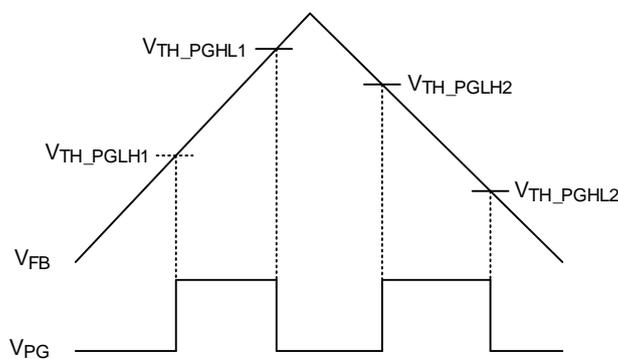

Figure 3. The Logic of PG
The RTQ2105-QA features an open-drain power-good output (PG) to monitor the output voltage status. The output delay of the comparator prevents false flag operation for short excursions in the output voltage, such as during line and load transients. Pull up PG with a resistor to  $V_{CC}$  or an external voltage below 5.5V. The power-good function is activated after the soft-start is finished and is controlled by a comparator connected to the feedback signal  $V_{FB}$ . If  $V_{FB}$  rises above a power-good high threshold ( $V_{TH\_PGLH1}$ ) (typically 90% of the reference voltage), the PG pin will be in high impedance and  $V_{PG}$  will be held high after a certain delay elapsed. When  $V_{FB}$  exceeds  $V_{TH\_PGHL1}$  (typically 120% of the reference voltage), the PG pin will be pulled low. Moreover, the IC turns off the high-side MOSFET switch and turns on the low-side MOSFET switch until the inductor current reaches  $I_{SK\_L}$  if the MODE pin is set high. If the  $V_{FB}$  is still higher than  $V_{TH\_PGHL1}$ , the high-side MOSFET switch remains prohibited and the low-side MOSFET switch will turn on again in the next cycle. If the MODE pin is set low, the IC turns off the low-side MOSFET switch once the inductor current reaches zero current unless  $V_{BOOT-SW}$  is too low. For  $V_{FB}$  higher than  $V_{TH\_PGHL1}$ ,  $V_{PG}$  can be pulled high again if  $V_{FB}$  drops back by a power-good high threshold ( $V_{TH\_PGLH2}$ ) (typically 117% of the reference voltage). When  $V_{FB}$  falls short of the power-good low threshold ( $V_{TH\_PGLH2}$ ) (typically 85% of the reference voltage), the PG pin will be pulled low. Once started up, if any internal protection is triggered, PG will be pulled low to ground. The internal open-drain pull-down device ( $10\Omega$ , typically) will pull the PG pin low. The power-good indicator profile is shown in Figure 3.